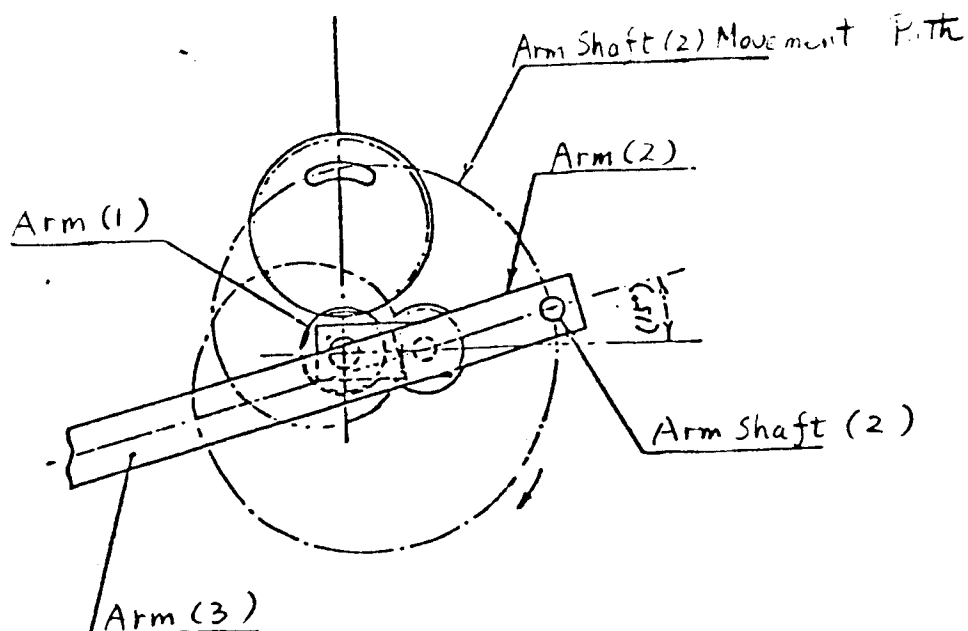

Fig. 3
With one rotation of the drive shaft, the arm shaft (2) moves in the direction as illustrated in Fig. 3.